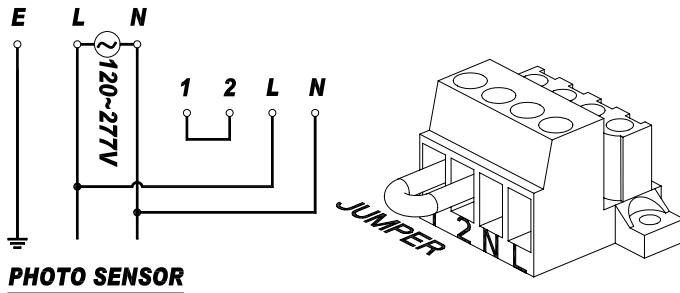

Figure 6
- Figure 6: Assembly and quick connector